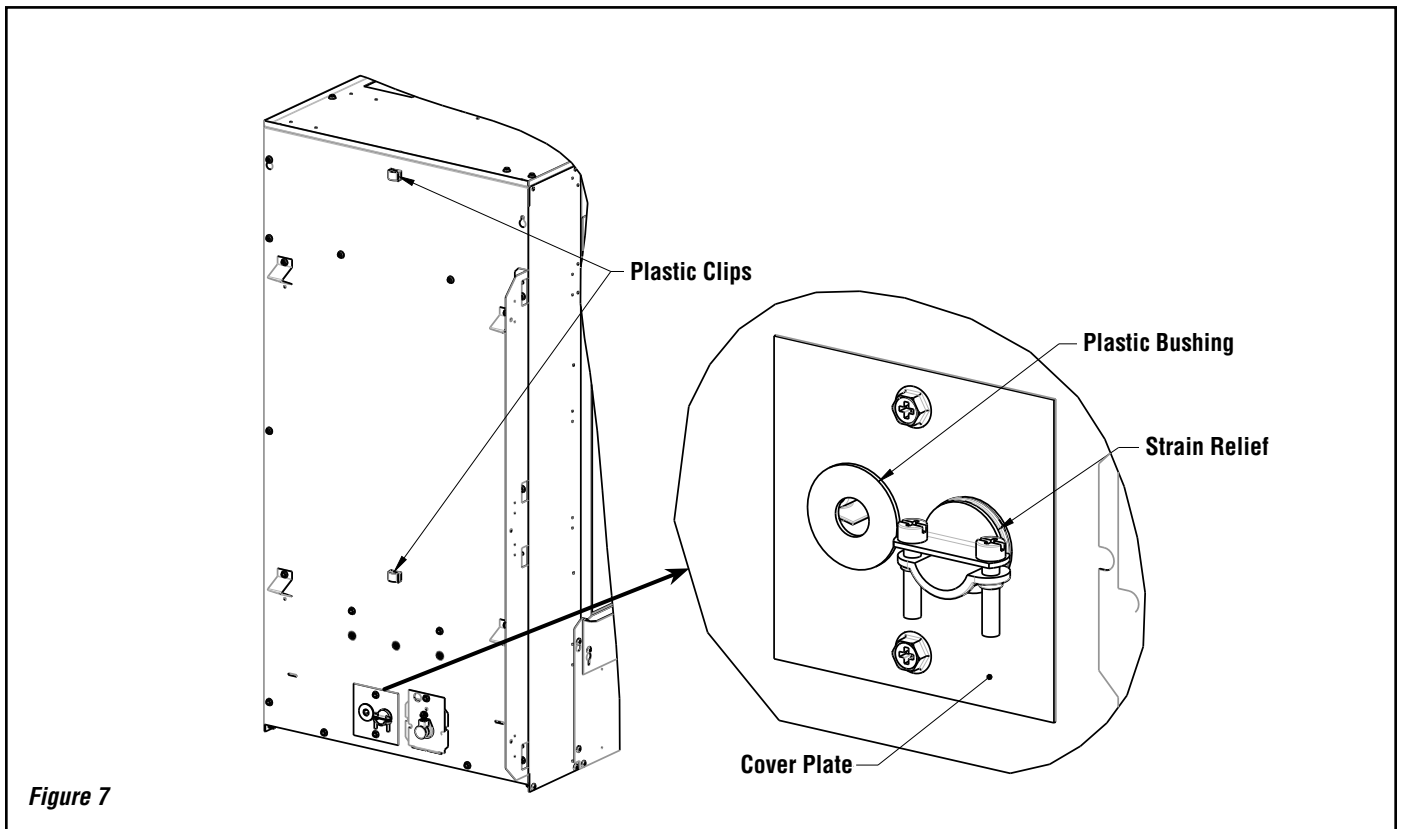

Figure 7
- 5.1. Remove square **cover plate** on left side of fireplace (**Figure 7**).
- 5.4. Push the two **plastic clips** [#14] in to the two holes on the left side of the fireplace, they will snap in place (**Figure 7**). These will be used for holding the vacuum hose in place.